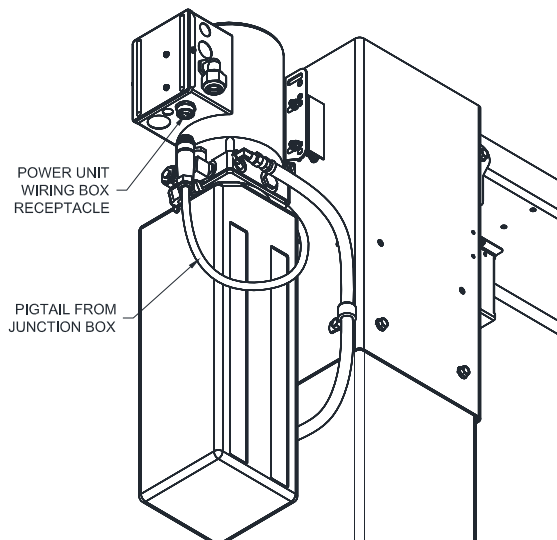

Fig. 16b – Junction Box Connection to Power Unit
- 38) Thread 9/16-18 O-ring elbow (in hardware box) into power unit. CAUTION do not damage rubber O-ring. Attach free end of power unit hose to elbow, see **Fig. 16b**.
- 40) Attach the junction box pigtail to the power unit receptacle. **Fig. 16b**.